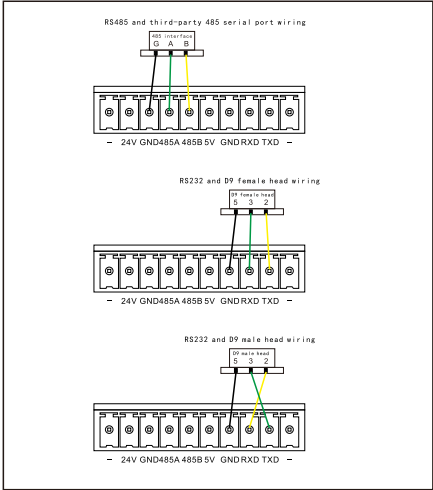

Figure 7. Serial port wiring
Product Wiring: See Figure 7 and 8
- 2. Port wiring:: 24V, 5V are output voltages (see Figure 7)